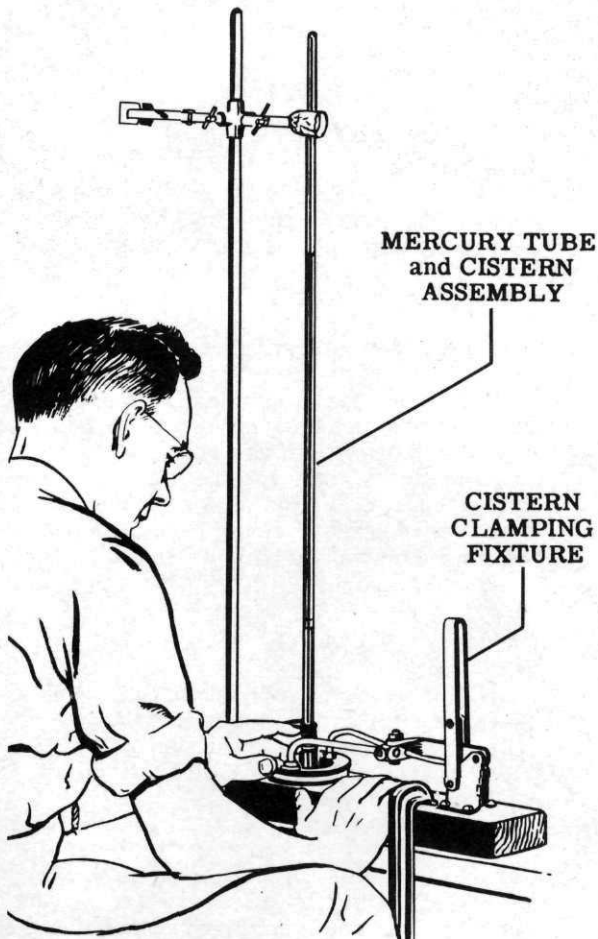

Figure 54
68. Slowly apply pressure to the top of the cistern assembly by means of the double-pronged clamp on the cistern clamping fixture, Tool No. 1. Continue to apply pressure until the mercury reaches the top of the tube. See Fig. 54.
69. Carefully examine the surfaces of the top and bottom cisterns, the mercury inlet screw and the seals for signs of leaking mercury. See Fig. 54 and the exploded view, Fig. 39 for the parts referred to in this operation.